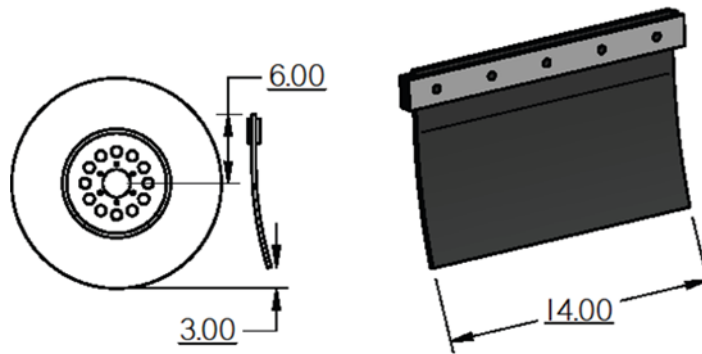

Figure 11 MUD FLAP
- Mud flaps are required and must extend from 6 inches above center line of rear axle to 3 inches from ground at ride height. See diagram on FIG 11.